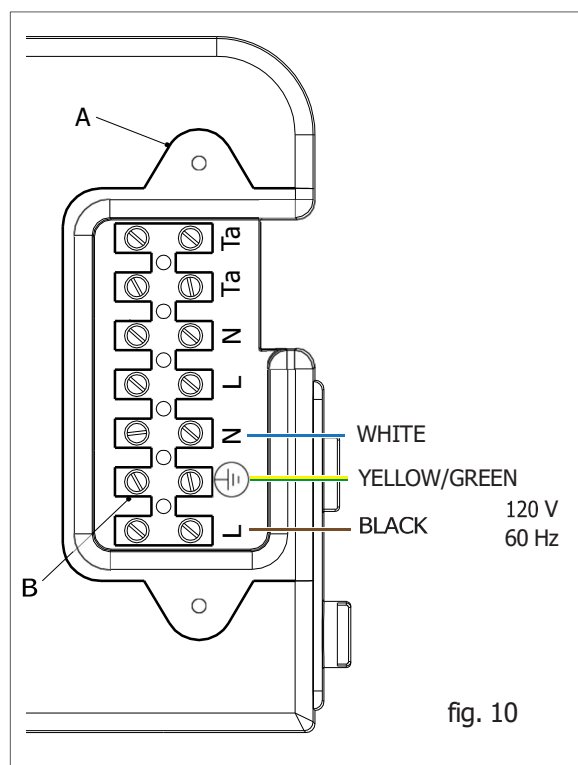

fig. 10
- > loosen the two screws and remove the plate "A" (see fig. 10).
- > after removing the plate, connect the electrical cables to terminal "B" (see fig. 10):